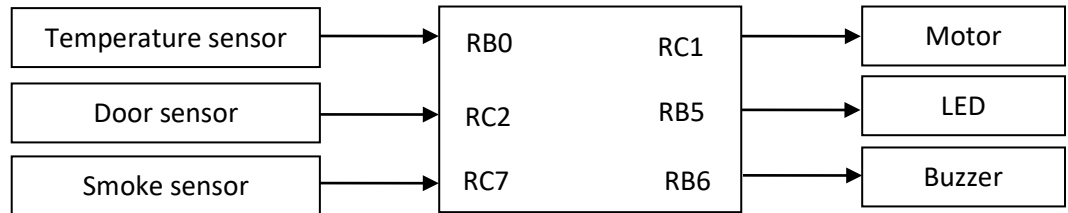

Figure A1(b) / Rajah A1(b)
- CLO1 (b) Figure A1 (b) shows the connection between input devices and output devices with PIC microcontroller. Write the C language to configure the input/output port using bit addressable and byte addressable.